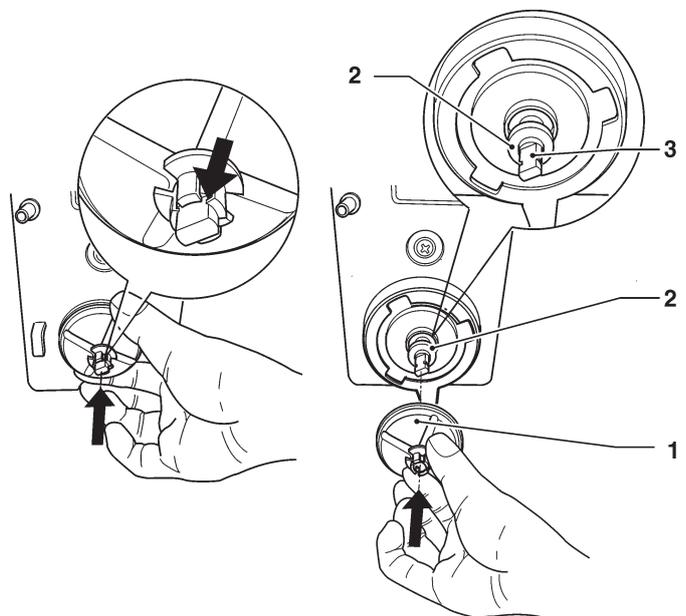

Fig. 31
- to disassemble the impellers, just lock and pull slightly to release them (fig. 31);
- Make sure that the lip seal of the stuffing gasket is not torn and that it has not lost its elasticity. To insert it, position the gasket just beyond the shaft undercut. Insert the impeller to reach the bottom. The stuffing gasket will assume the correct position (see fig 31).